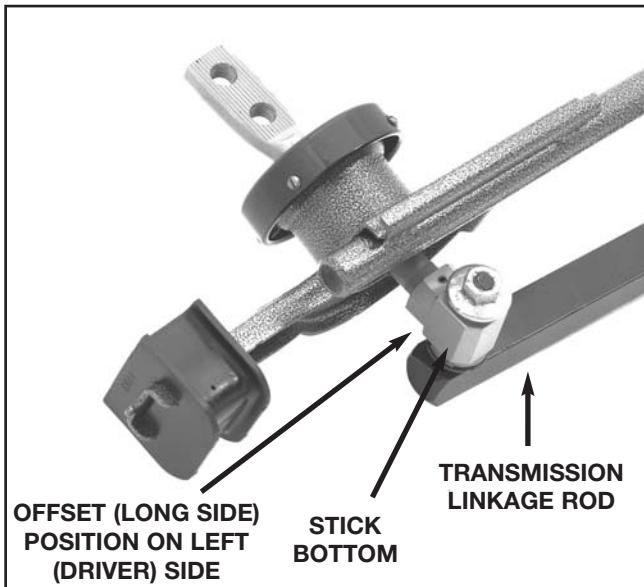

Figure 2
7. From underneath the car, use a 13mm wrench to remove the hex nut that secures the transmission linkage rod to the bottom of the factory shifter (see fig.2). Disconnect the rod by pulling it out of the shifter stick bottom.
6. Lightly lubricate stem on shift rod linkage and insert into bushings located in shifter stick bottom. **Important: Offset (long side) of connector located on stick bottom should be positioned to the left (driver) side (see fig.2).** Fasten with hex nut previously removed and tighten securely using a 13mm wrench. **Note: We recommend using thread locker on the threads to prevent loosening.**
7. From inside the car, attach the Hurst upper stick to the stick bottom with the two (2) button head socket bolts and star tooth lock washers supplied. **Important: Be sure that serrations on upper stick engage serrations on stick bottom.** Using a 7/32" hex key wrench, tighten bolts 30-35 ft. lbs. torque.